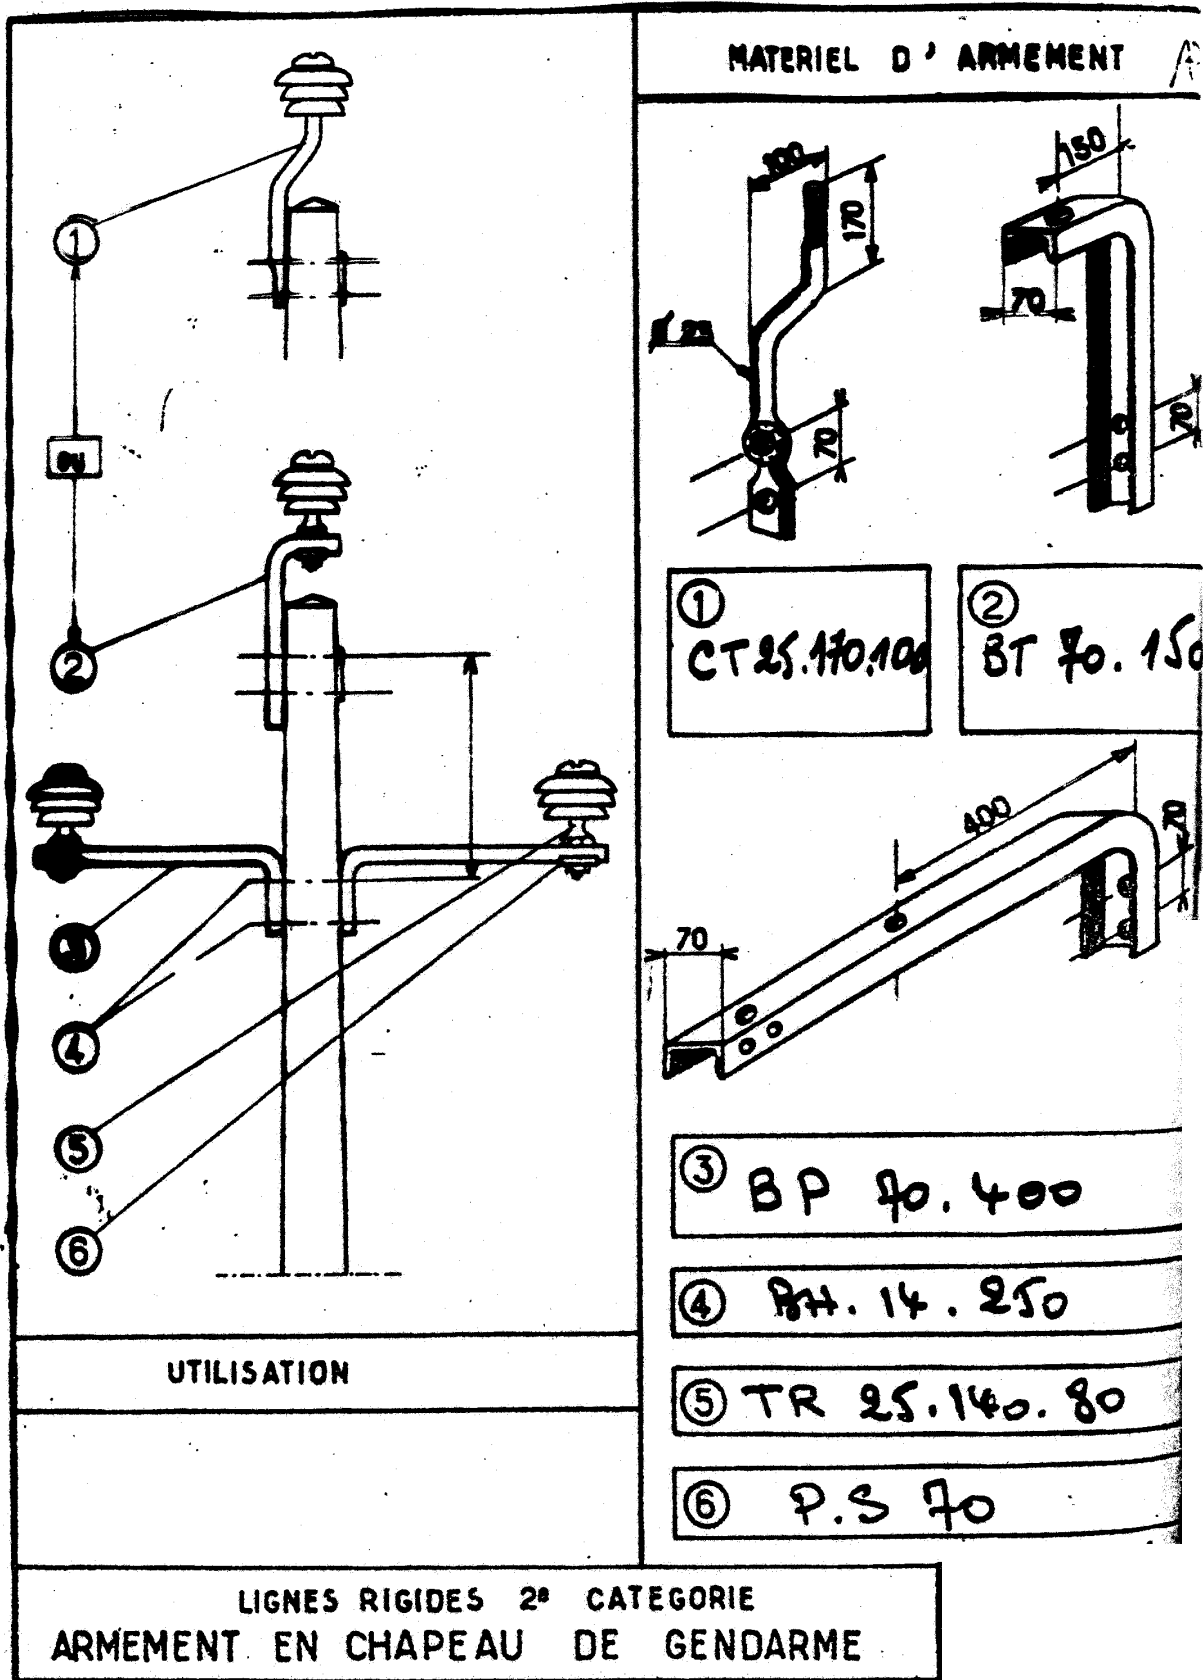

Figure 5
c) Armement triangle (figure 5)